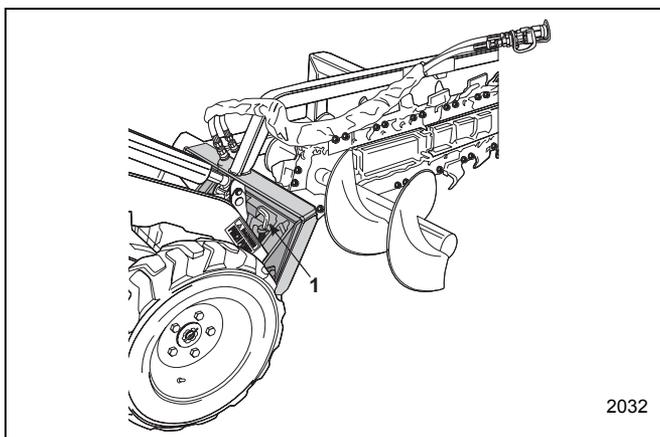

Figure 3-27 Hydraulically Powered Attachment Installed
4. When the machines mounting plates top edge is seated in the attachment mounting plate, curl the machines mounting plate backwards slightly to allow the lower edge of the machines mounting plate to slide into position. See Figure 3-27.